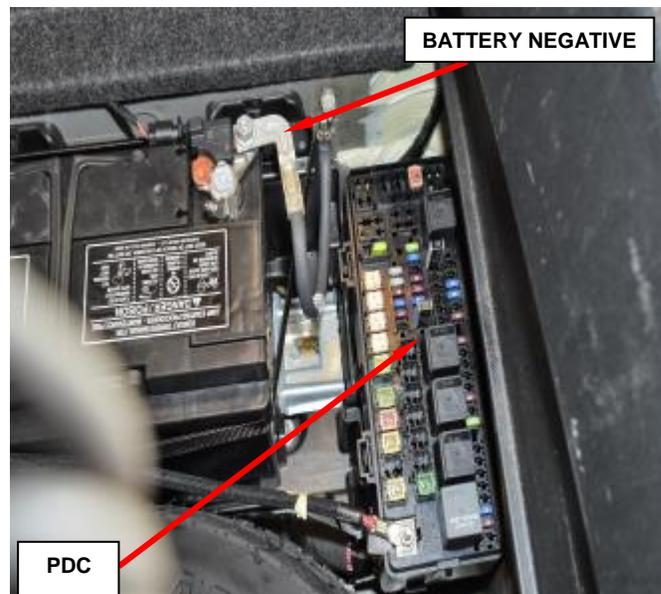

Figure 23 – Battery Negative
1. Disconnect and isolate the battery negative cable then remove the two Airbag Module fuses from the Power Distribution Center (PDC), see the PDC cover for the fuse locations. Wait two minutes for the system capacitor to discharge before further service (Figure 23).